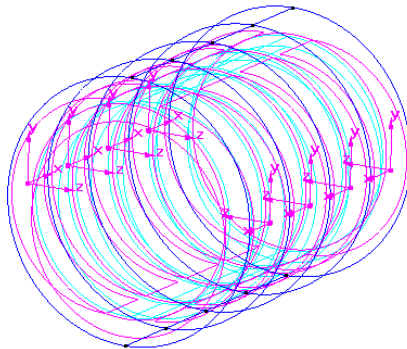

Figure 1.8 The local coordinates at the contour of the tunnel
- The local coordinates can now be shown by selecting the *Draw* option from the same menu, see Figure 1.8.
To model the interaction between the soil and the tunnel lining, interface elements have to be added. Looking to the local coordinates of the tunnel contour (see Figure 1.8) the interfaces should be defined in the negative local *z*-direction.